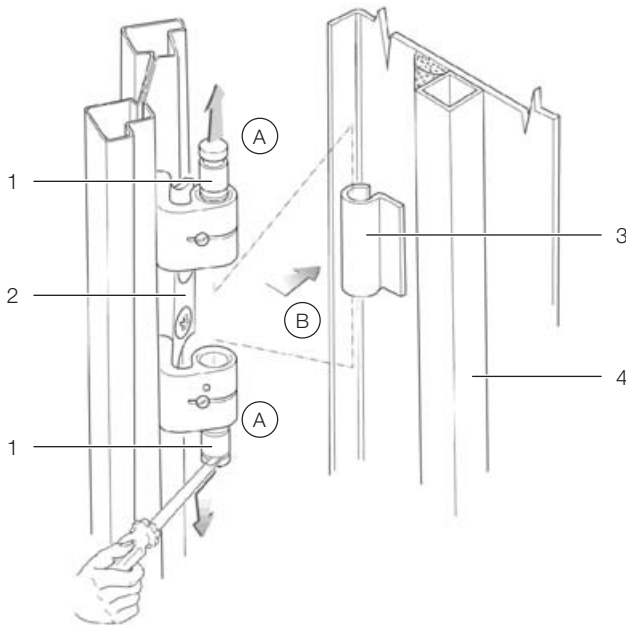

Fig. 24: Removing a door hinge
- Loosen the hinge bolts from the four door hinges by raising them with an appropriate tool (e.g. screwdriver). Pull the bolts out of the hinge pin holding fixture as far as they will go (see fig. 24, step A). Begin with the lowest door hinge.
- Remove the server enclosure door (fig. 24, step B).